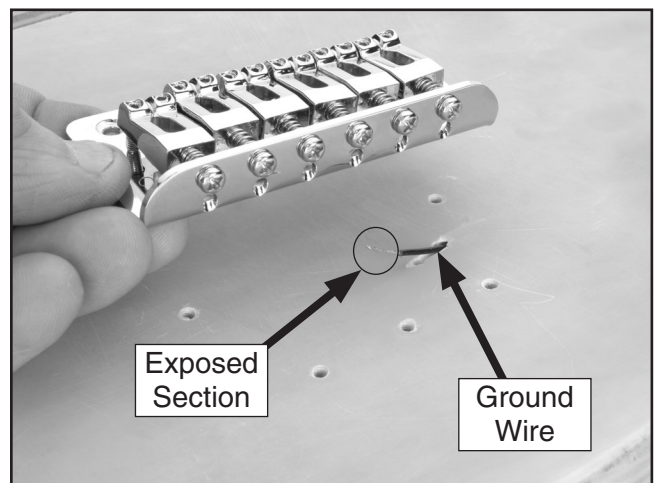

Figure 20. Bridge placement.
1. Make sure the end of the grounding wire fits snugly in the hole shown in **Figure 20**. The exposed wires should protrude past the hole enough to contact the bridge.
3. Align the mounting holes on the guitar and bridge (**Figure 20**) and secure over the ground wire with five #4 x 3/4" silver screws.